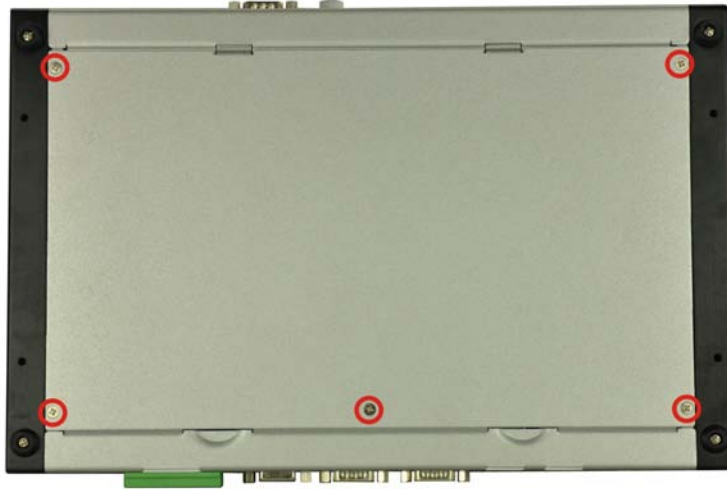

Figure 3-1: Bottom Panel Retention Screws
- Step 1:** Remove the bottom panel by removing the five retention screws from the bottom panel (**Figure 3-1**).